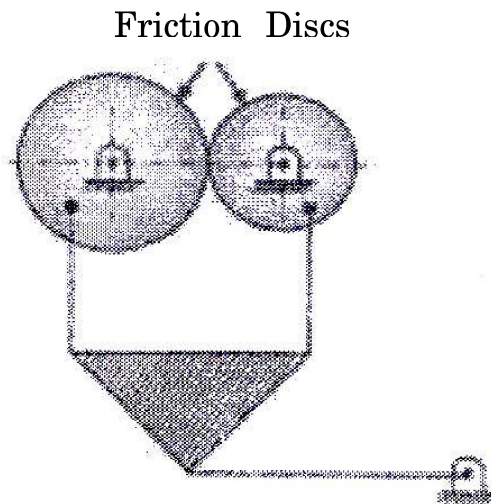

Fig. 1
1. (a) Find the mobility (degrees of freedom) of the mechanism shown in Fig. 1. [4]